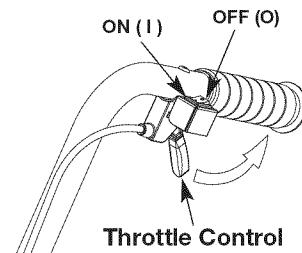

Fig. 8
**NOTE:** There is no need to turn the unit on. The On/Off Control is in the **ON (I)** position at all times (Fig. 8).
- Press and hold the On/Off Control in the **OFF (O)** position until the unit comes to a complete stop. (Fig. 8)